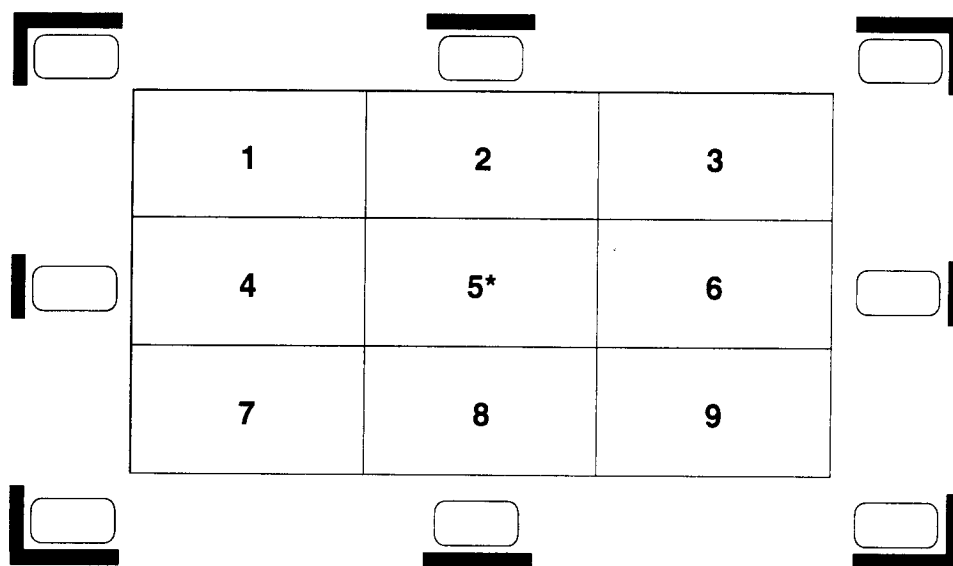

FIGURE 6-8.
- STEP 1. Divide the white field pattern into 9 zones. Refer to Figure 6-8. Note the area selection keys and the affected zone.
- STEP 5. GREEN ONLY! Measure and record the readings of each zone indicated in Figure 6-8.